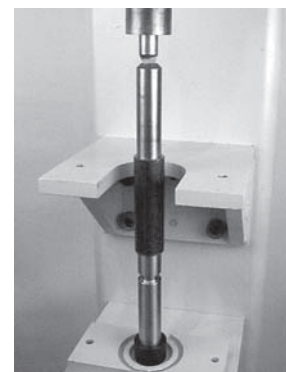

Figure 81
4. Using an arbor press or similar device, press bearing onto pulley shaft (**Figure 81**).